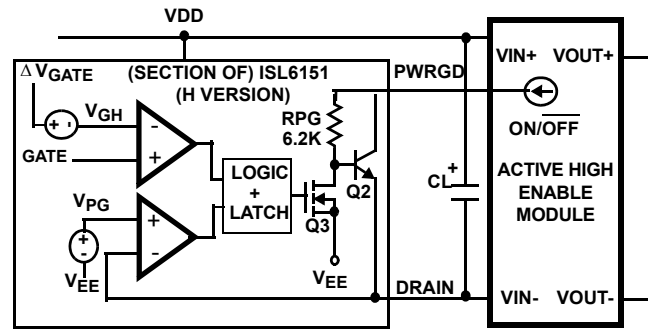

FIGURE 33. ACTIVE HIGH ENABLE MODULE
**ISL6151** (H version; Figure 33): Under normal conditions (DRAIN voltage -  $V_{EE} < V_{PG}$ , and  $\Delta V_{GATE} - V_{GATE} < V_{GH}$ ), the Q3 DMOS will be on, shorting the bottom of the internal resistor to  $V_{EE}$ , and turning Q2 off. If the pull-up current from the external module is high enough, the voltage drop across the 6.2k $\Omega$  resistor will look like a logic high (relative to DRAIN). Note that the module is only referenced to DRAIN, not  $V_{EE}$  (but under normal conditions, the FET is on, and the DRAIN and  $V_{EE}$  are almost the same voltage).
The Enable input often has a pull-up resistor or current source, or equivalent built in; care must be taken in the ISL6151 (H version) output that the given current will create a high enough input voltage (remember that current through the RPG 6.2k $\Omega$  resistor generates the high voltage level; see Figure 33).